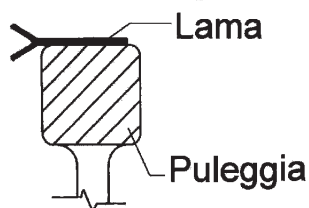

Fig. 7.6.3
The blade should rest on the two pulleys, however the sharp (cutting) edge should jut out past the pulley. Refer to fig. 7.6.3 Rotate the two pulleys by hand to check the blade is positioned correctly.
- Slacken screw "3" by turning it anticlockwise, remove the washer which secures the pulley in position "4", using both hands grip the pulley and pull towards yourself as illustrated in fig. 7.6.3 and clean with a sponge soaked in a neutral pH 7 detergent.